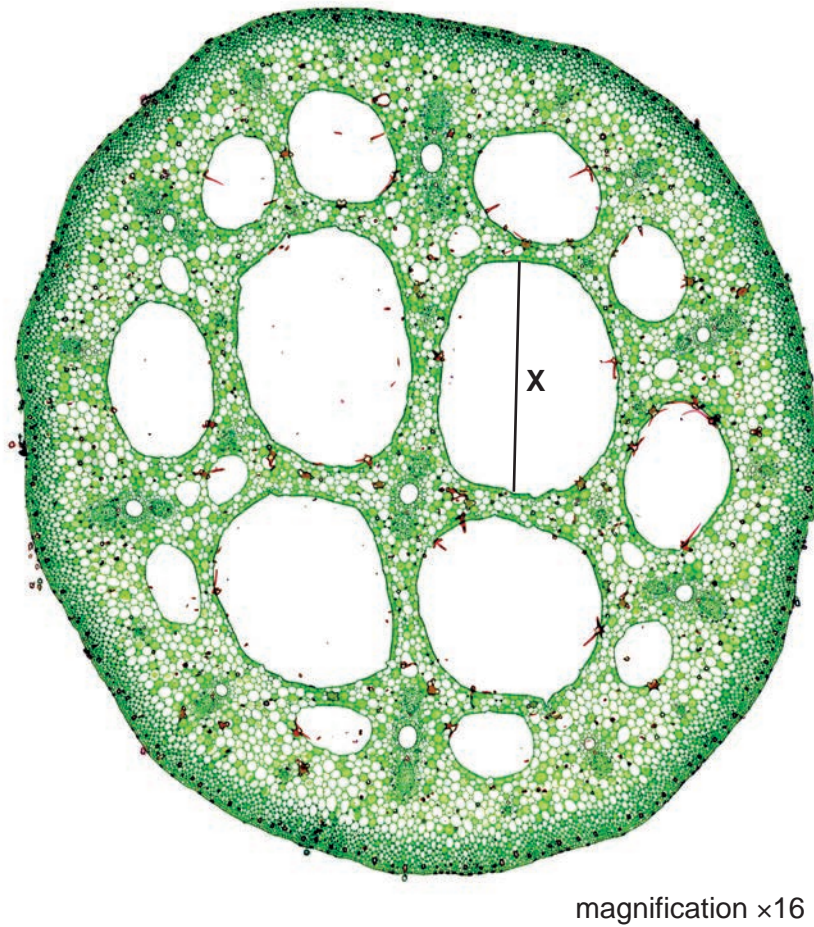

Fig. 2.2
- (b) Fig. 2.2 is a photomicrograph of a stained transverse section through a stem of a different type of plant.
- (i) In Fig. 2.2 the line X is drawn across the length of an air space.
- (ii) Observe the stem on **J1** and the stem in Fig. 2.2 and identify the differences between them.